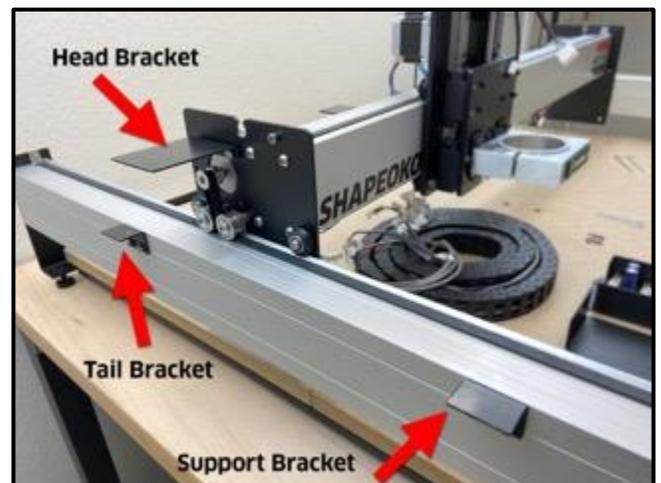

Figure 6-8
3. Use the 3mm hex key and two (2) M4x6mm socket head cap screws to attach the support bracket (no PEM nut) to the outside of the Y1-rail. Install closest to the front endplate. See **Figure 6-8**.
4. Use the 3mm hex key and two (2) M4x6mm socket head cap screws to attach the tail bracket (single PEM nut) to the outside of the Y1-rail closest to the rear endplate. See **Figure 6-8**.